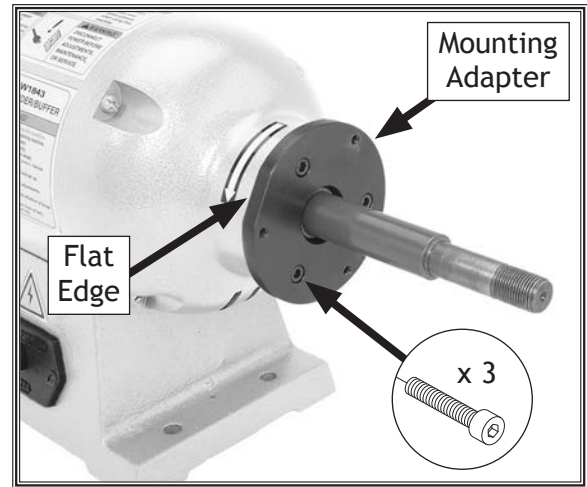

Figure 7. Mounting adapter installed.
1. Slide the mounting adapter onto the right-hand arbor of the motor assembly with the countersunk holes facing out, then rotate it so that the flat edge is at the 10 o'clock position, as shown in **Figure 7**.
2. Secure the adapter to the motor assembly with (3) 1/4"-20 x 1/2" cap screws (see **Figure 7**).